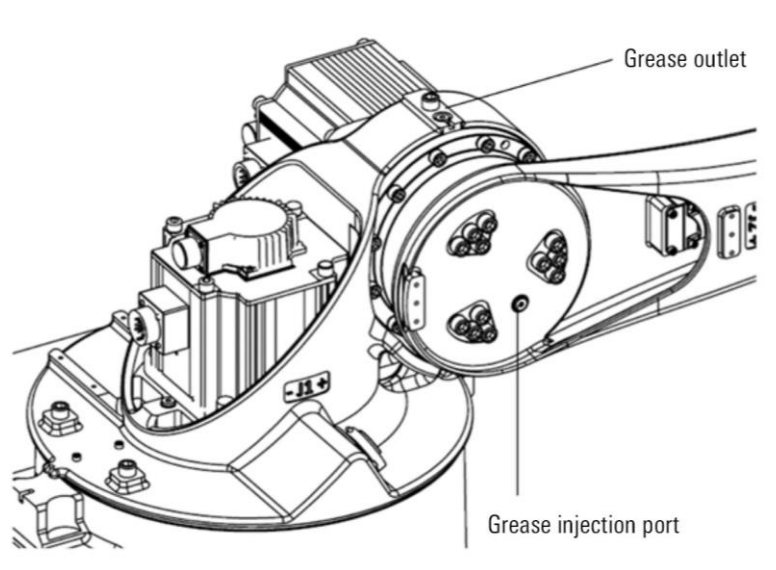

Figure 12-5 Replace the lubricating grease of J2 axis reducer
- Step4. Remove the M10x1 plug from the grease outlet, as shown in Figure 12-5.